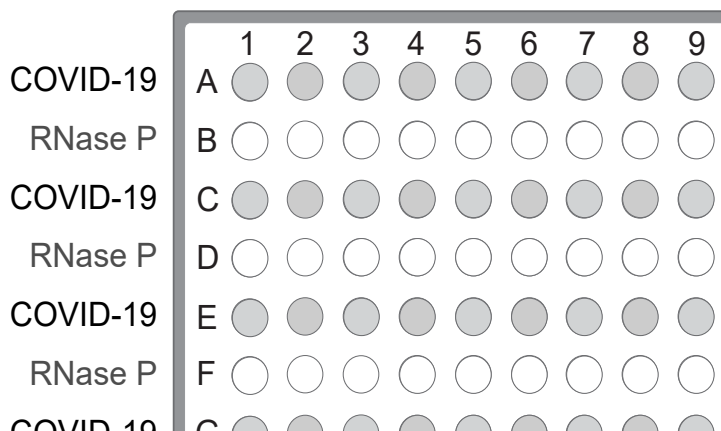

Figure 7 Assays in alternating plate rows
- a. Starting with row A, pipette 15.0  $\mu$ L per well of the COVID-19 Reaction Mix into every other row of a MicroAmp™ Optical 384-Well Reaction Plate with Barcode. See Figure 7 on page 62. Plates without a barcode can be used (see “Required materials not supplied” on page 11).